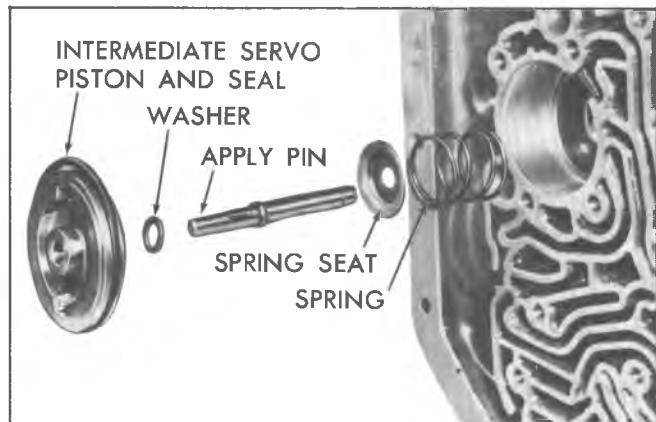

Fig. 25M--Intermediate Servo Piston and Related
15. Remove intermediate servo piston and seal ring. Remove washer, spring seat and apply pin (fig. 25M).